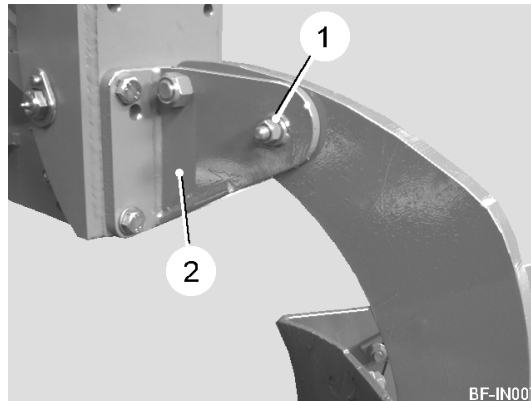

Fig 7
The ridgers bodies are protected by either a shearbolt device or an auto-reset device. Both devices prevent damage to the machine by allowing the ridger body to pivot backwards when hitting an obstruction. With the shearbolt device, as the name suggests, the grooved shearbolt (item 1, fig 7) breaks allowing the ridger to pivot up over the obstruction. Once the obstruction is clear the shearbolt must be replaced. With the auto-reset device the ridger body will pivot up and then automatically return to its working position once the obstruction has cleared.
Always replace a broken shearbolt with a genuine Standen replacement. When fitting the new shearbolt, for it to function correctly, the nyloc nut must be on the 'spacer side' of the leg mounting bracket (item 2, fig 7). Failure to observe the above precautions may cause damage to the machine.